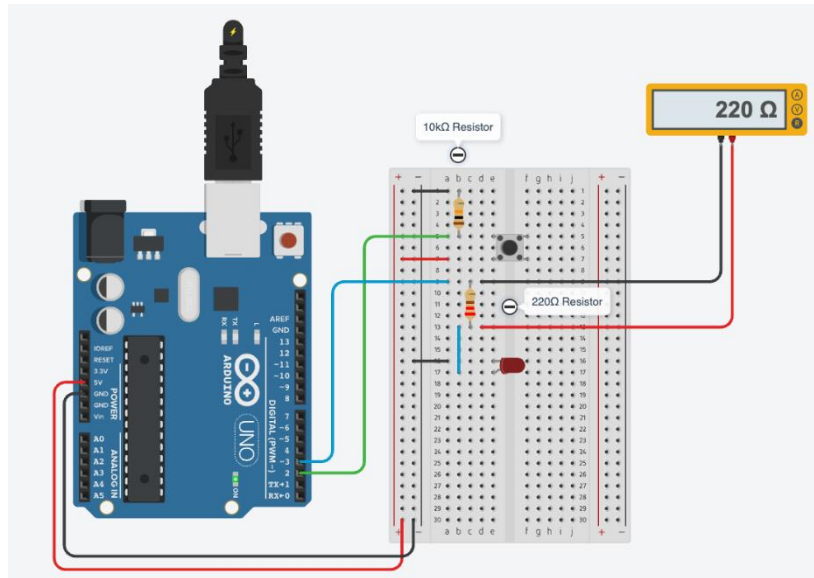

Figure 10 - Measuring Resistance
4. Touch one probe to each side of the resistor (see Figure 10)